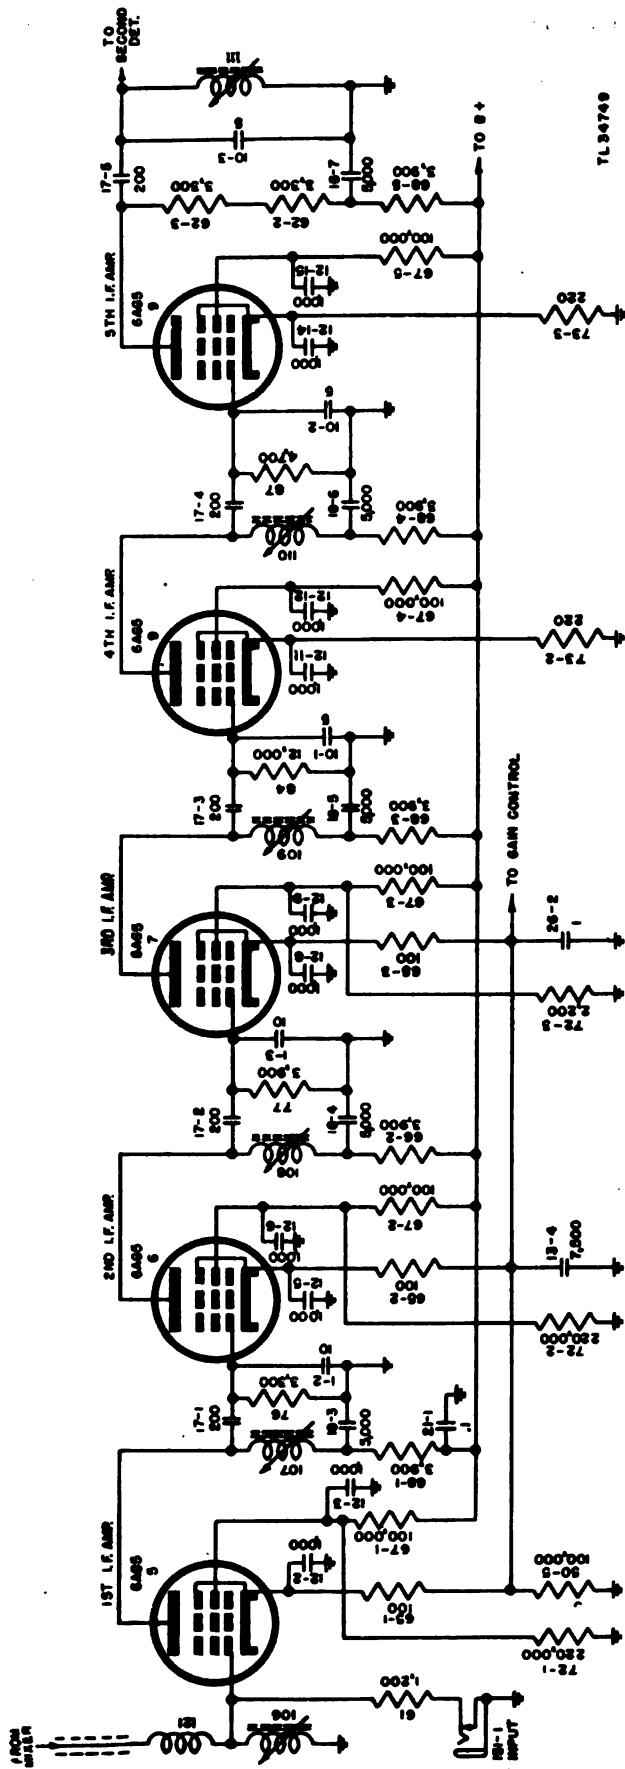
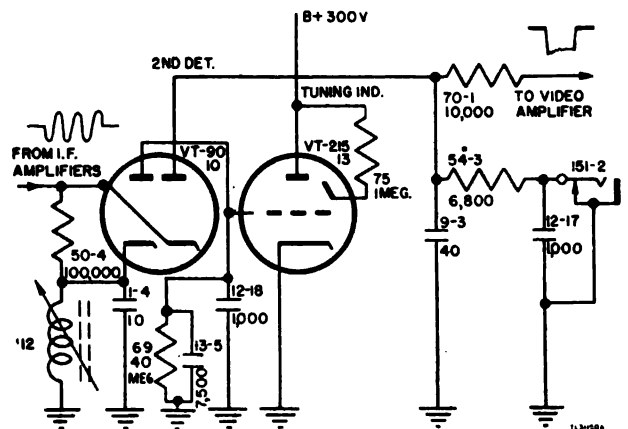

Figure 86. 1-f section, partial schematic.
Figure 87. Detector and tuning indicator, partial schematic.
The schematic for the i-f amplifier section is shown in figure 86. Each of the five stages is individually tuned by means of coils 106, 107, 108, 109, 110, and 111 which are permeability tuned. Capacitance for the tuned circuits is obtained from capacitors 1-2, 1-3, 10-1, 10-2, and 10-3 across the coils working in conjunction with the stray capacity of the circuit. The i-f signal is coupled to the grid of the first i-f amplifier through filter choke 121, where it is amplified and fed successively to the four succeeding stages for further amplification. The i-f transformers are stagger tuned to produce a band width of approximately 4 megacycles. The receiver has
no automatic gain control, but a manual gain control is provided which controls the bias on the first r-f tube and the first three i-f tubes. This gain control is a special taper variable resistor and is not shown on the schematic because it is mounted in the interconnector. Pin No. 22 of the interconnector plug of Radio Receiver and Transmitter BC-1267-A is connected to Rack FM-82 by a shielded wire in the rear of the rack. From the rack it is connected to pin *D* of connector 105 on Interconnector BC-1298. The gain control is connected between pin No. 22 and ground. Increasing the value of this resistance increases the bias on the tubes, which lowers the transconductance and decreases the gain. With the exception of the gain control circuits, all the i-f stages are similar in their cathode, screen, and plate supply circuits. (See fig. 86.) R-f chokes 105-3 and 105-5, in series with the filament supply as shown in the complete schematic diagram of this component, filter the filament circuit. Closed circuit jack 151-1, in series with resistor 61 in the grid circuit of the first i-f amplifier, provides a means for testing and aligning the i-f amplifier section separately.
A 6H6 (10) double-diode tube is used as the detector. (See fig. 87.) One of the diodes functions as a detector for the signal output which is further amplified by the video stage. The other diode is used to detect a part of the signal to operate the tuning indicator. The input to the double diode consists of pulses of i-f signal, which are applied through capacitor 17-5 (fig. 86) directly to the cathode of the right-hand diode and through a dropping resistor 50-4 to the other cathode. The cathode and the plate of the right-hand diode form the detector
for the signal circuit. The input circuit for these elements is tuned by variable inductance 111. (See fig. 86.) A closed circuit jack 151-2, in series with the plate load resistor 54-3 and bypassed by capacitor 12-17, provides a means for measuring the rectified current. This jack is used to align the i-f amplifier. Resistor 70-1 damps out parasitic oscillations in the diode output to the video amplifier. The cathode and the plate of the left-hand diode form the detector for the tuning indicator signal and this detector is sharply tuned by the variable inductance 112 and capacitor 1-4. This permits accurate manual tuning of r-f and local oscillator circuits to the center frequency of the i-f stage. A very high time constant circuit, resistor 69 and capacitor 13-5, is provided in the tuning indicator circuit so that it will respond to pulse signals. The accuracy of tuning is observed on the tuning indicator tube 13. Capacitor 9-3 and resistor 54-3 provide the
filtering for the output of one diode, and capacitor 13-5 and resistor 69 provide the filtering for the other. The output delivered to the tuning indicator consists essentially of a direct current of negative polarity. The output from the plate of the right-hand diode consists of sharp pulses of negative polarity. (See fig. 87.) This negative pulse is applied to the grid of the video amplifier.
The connections to the tuning-indicator tube 6E5 (13) are conventional. (See fig. 87.) The negative input to the grid of tube 13 causes the control grid to become negative with respect to the cathode. When the signal becomes stronger, the control grid becomes more negative, causing the dark arc of the indicator tube to become narrower. Tuning adjustments, therefore, are made to obtain as narrow a shadow as possible.